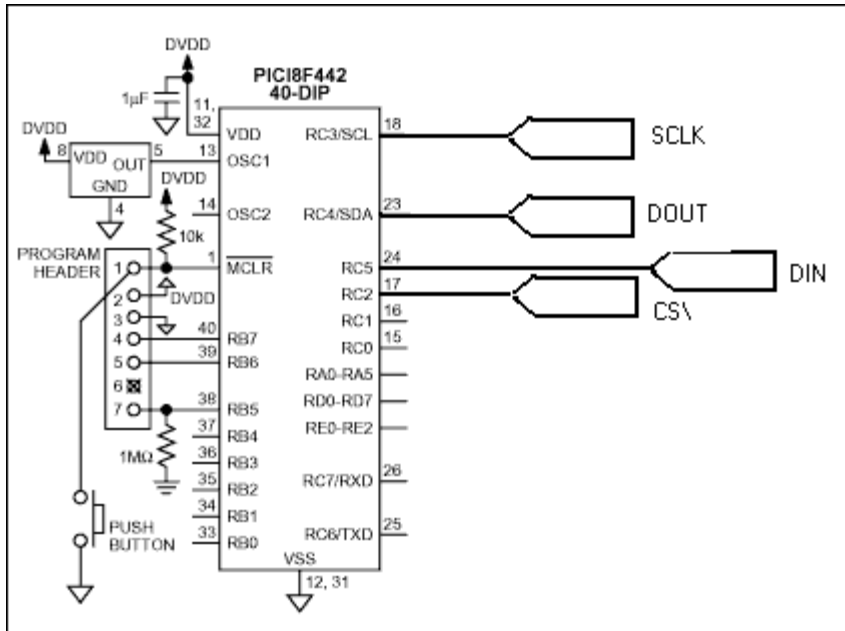

Figure 1. MAX5581 application schematic Sheet 2 of 2.
The application circuit discussed here uses the MAX5581 Evaluation (EV) Kit, which consists of the MAX5581, an ultra-high-precision voltage reference (MAX6126), two pushbutton switches, gain setting resistors, and a proven PCB layout. The PIC18F442 is not present on the MAX5581EVKIT board, but was added to the system to complete the application schematic shown in **Figure 1**. The /CS, SCLK, DIN, and DOUT pads on the MAX5581EVKIT allow an easy connection for the SPI serial interface.